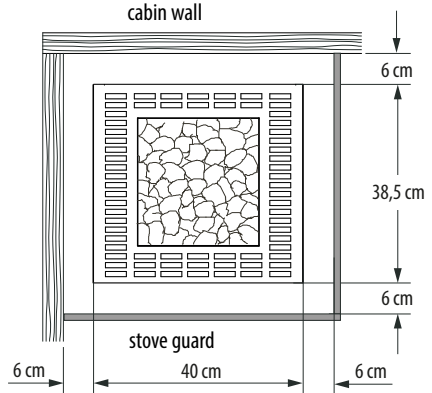

Fig. 2
- When installing the sauna heater, make sure that the horizontal (side) distance between the heater and the cabin wall is at least **6 cm** (Fig. 2).